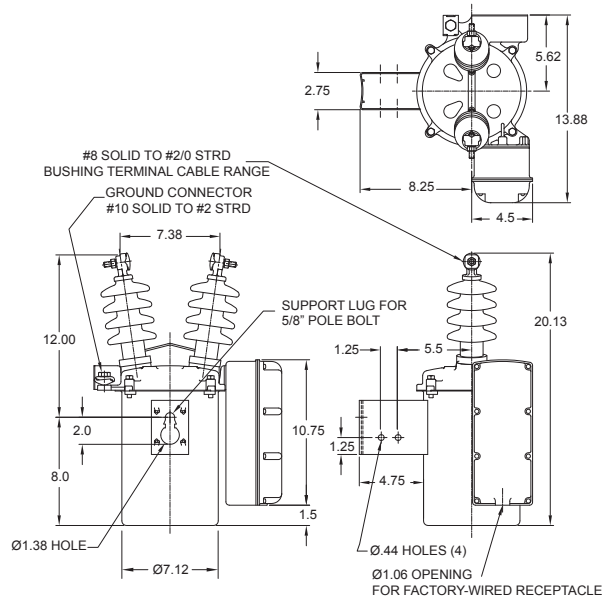

Figure 5. Outline dimensions of 95 kV BIL Type NR oil switch with standard bushings, (15.0 kV Rating only).
- Mount the switch.** The switch can be direct pole mounted with a through-bolt. Mounting hardware is also available for substation and cross-arm pole mounting. Dimensions to determine mounting position and clearances are shown in Figures 5, 6 and 7.